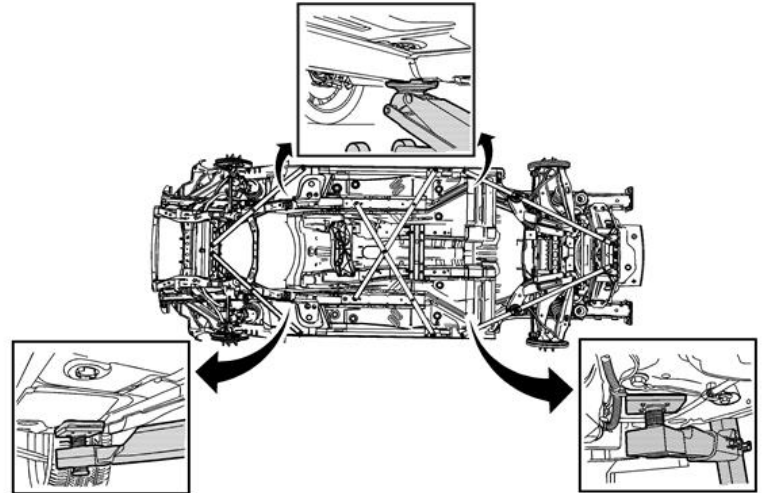

Figure 1
When lifting the vehicle with a frame-contact lift, place the front lift pads on the front lower brackets, inboard of the rocker pinch weld flange and outboard of the front frame rail, at the torque box location, as shown (Figure 1).
When lifting the vehicle with a frame-contact lift, place the rear lift pads on the rear frame rail, at the torque box location, as shown (Figure 1).
- Under the front frame crossmember, as shown (figure 1).
When using a service jack under the rear of the vehicle place the jack pad on the rocker panel flange, at the torque box location, as shown (figure 1).